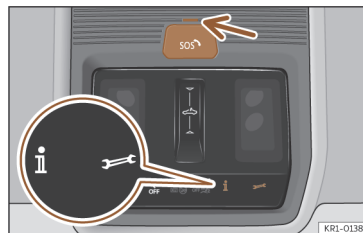

Fig. 46 On the roof console: controls for voice services.
The following voice services can be run by pressing the buttons **i**, **☞** and **SOS** >>> **Fig. 46**:
There is a control lamp on the control >>> **Fig. 46** (arrow). It shows the following statuses:
1. Briefly press the button cover  and open the cover >>> Fig. 46.
Depending on the equipment and the country, the vehicle may be fitted with an emergency call system. In some countries, the free public emergency call system is activated by default. The control element is located on the roof console >>> **Fig. 46.**
1. Briefly press the button cover  and open the cover >>> **Fig. 46.**